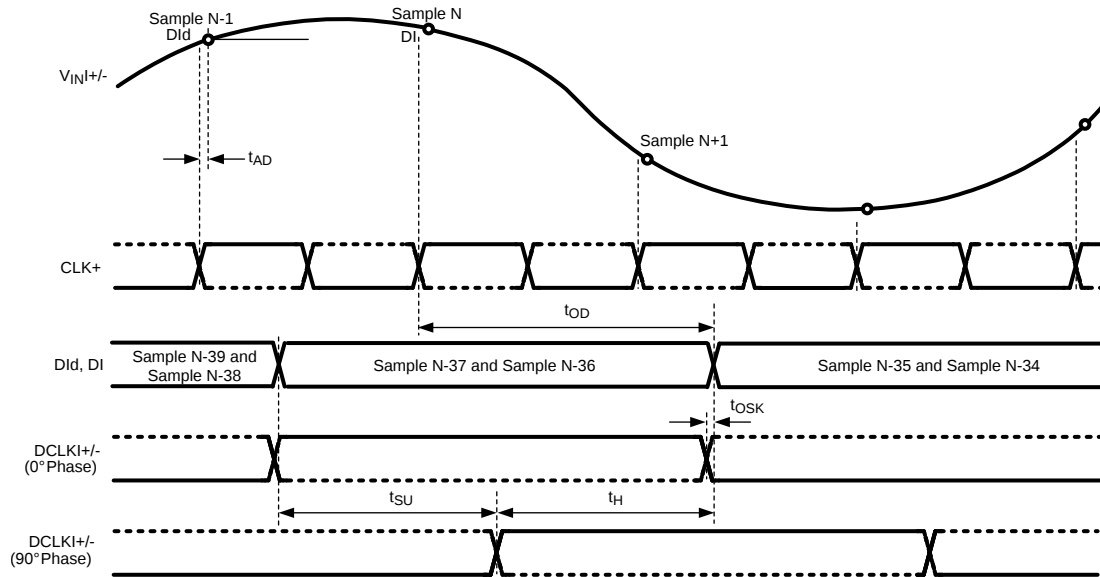
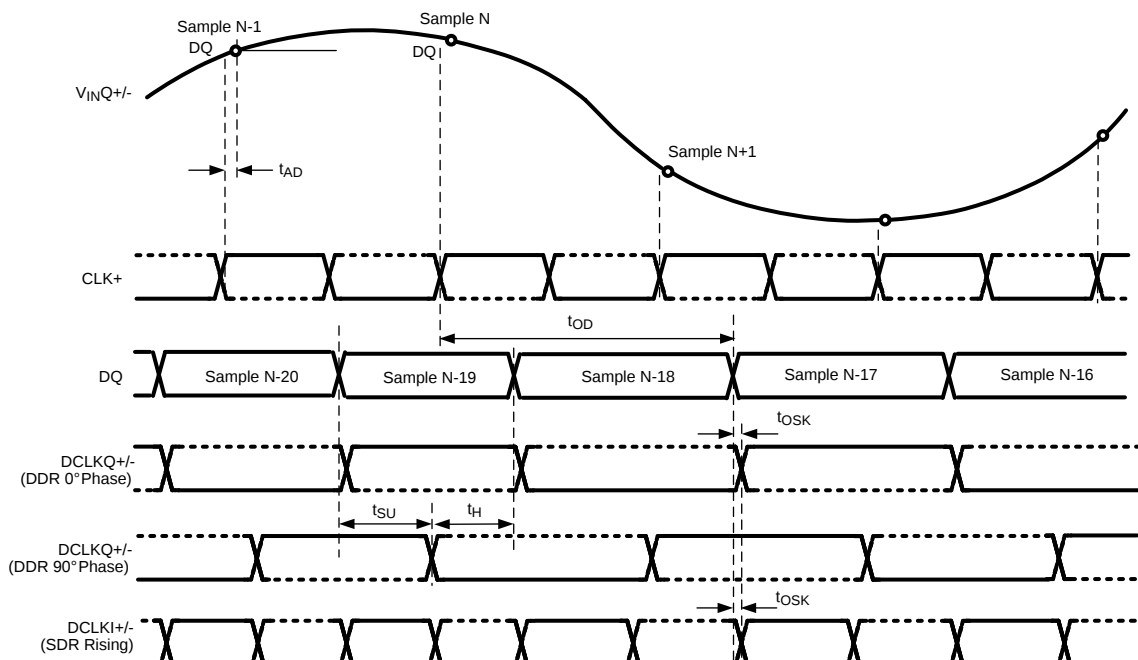

Figure 4. Clocking in Non-LSPSM, 1:2 Demux, Non-DES Mode*
Figure 9. Clocking in LSPSM, Non-Demux Mode, Non-DES Mode*
* The timing for Figure 4 through Figure 9 is shown for the one input only (I or Q). However, both I- and Q-inputs may be used. For this case, the I-channel functions precisely the same as the Q-channel, with V_{inI} , $DCLKI$, DI and DI instead of V_{inQ} , $DCLKQ$, DQ and DQ . Both I- and Q-channel use the same CLK.